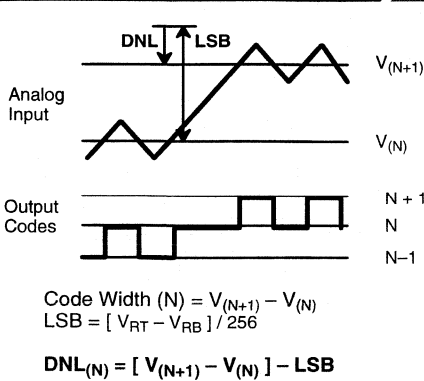
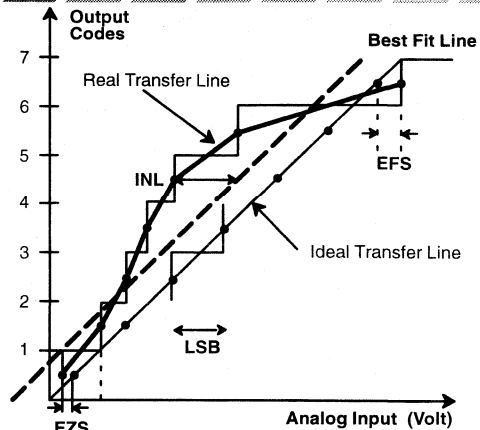

Figure 2. DNL Measurement
Figure 3. INL Error Calculation
- Tester measures code transitions by dithering the voltage of the analog input (V_{IN}). The difference between the measured and the ideal code width ($V_{REF}/256$) is the DNL error (Figure 2). The INL error is the maximum distance (in LSBs) from the best fit line to any transition voltage (Figure 3). Accuracy is a function of the sampling rate (FS).